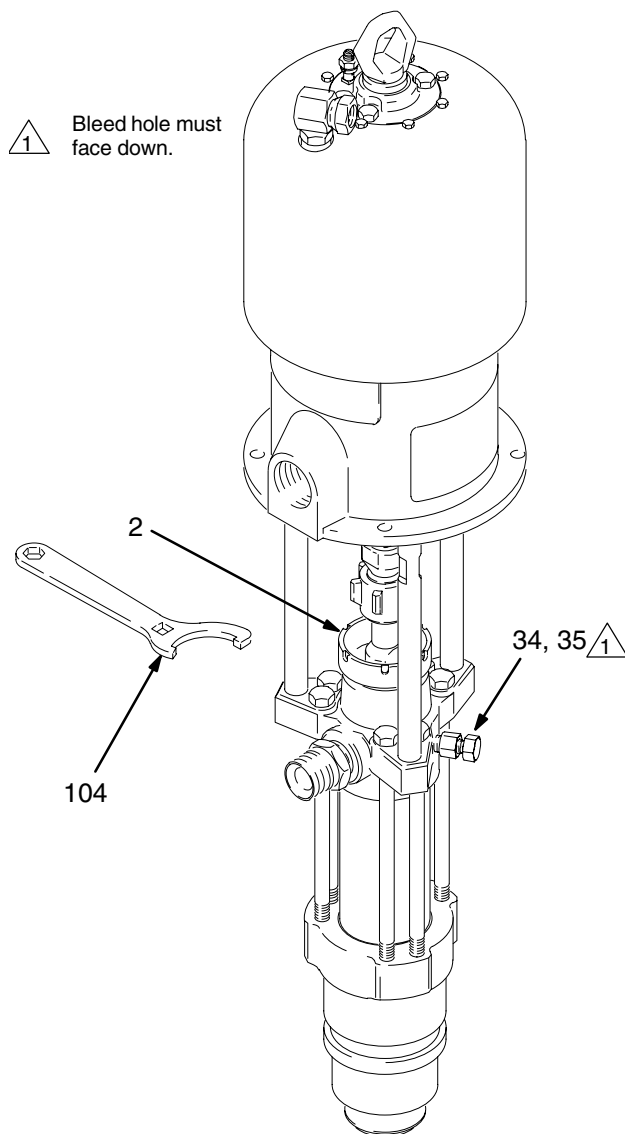

Fig. 4
Fill the packing nut/wet-cup (2) 1/3 full with Graco Throat Seal Liquid (TSL) or compatible solvent. See Fig. 4. Using the supplied wrench (104), adjust the packing nut weekly so it is just snug; do not overtighten. Follow the **Pressure Relief Procedure** above before adjusting the packing nut.
If the pump fails to prime properly, open the bleeder valve (35) slightly. Use the bleed hole on the underside of the valve body (34) as a priming valve until the fluid appears at the hole. See Fig. 4. Close the plug (35).